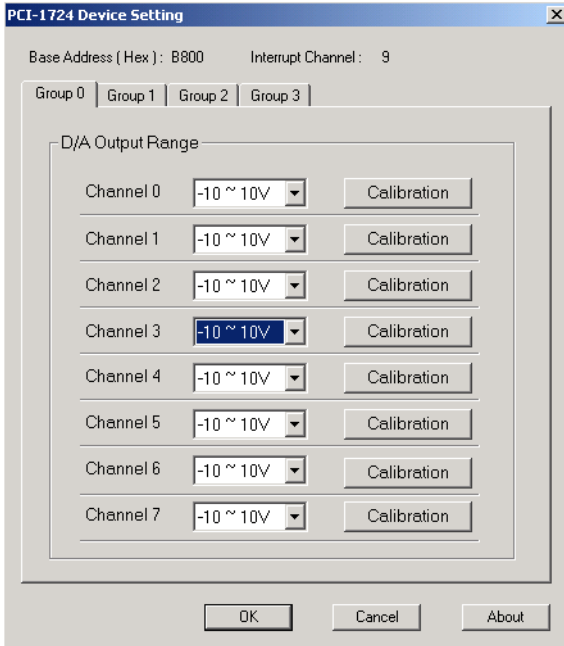

Figure 2.5: The Device Setting Dialog Box
3. In the Device Setting dialog box (Fig.2-5), you can calibrate the voltage output range for the 8 D/A channels in 4 groups. For more detailed information, please refer to Appendix D Calibration Utility.